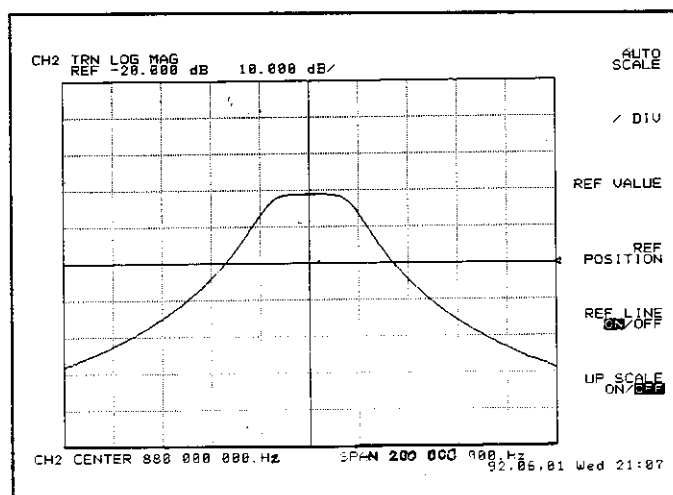

Figure 2-2 Filter Characteristics Waveform Trace
(5) Connection of DUT
If the DUT is connected as shown in figure (a) of (1) Setup Operation, the waveform is displayed as shown in Figure 2-2.